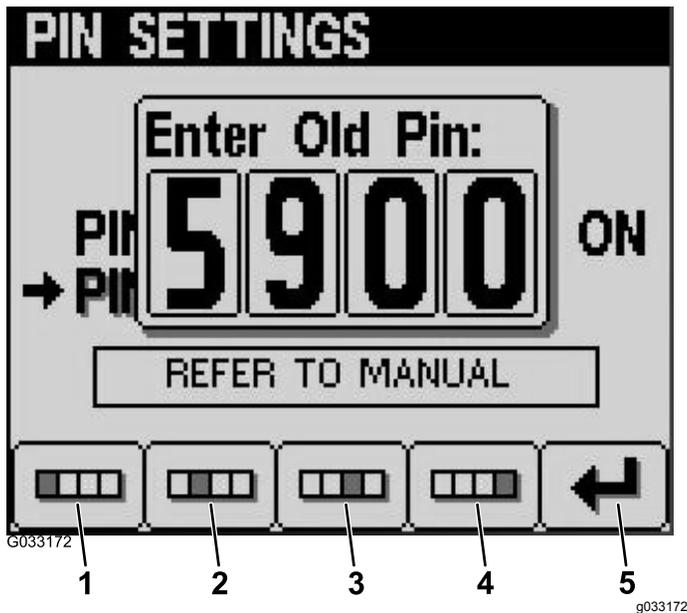

Figure 24
6. Enter your old PIN using buttons 1 to 4 and press button 5 when you complete the PIN (Figure 24).